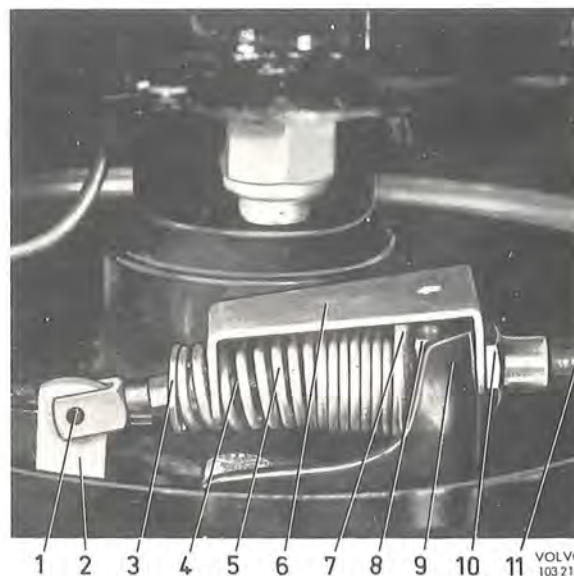

Fig. 5-83. Fitting the spring tool
5. Place holder SVO 2742 so that the return spring is held in position according to Fig. 5-83. Bend up
2. Fit on new rubber cable guides for the cable suspension. Place the cable in position in the rear attachment and tighten the nut. Fit the washers and return spring. Compress the spring with the help of the holder tool, see Fig. 5-83. Oil the lock pin and fit it together with the cable on the lever. Fit the attachment and rubber cable guide on the frame member.